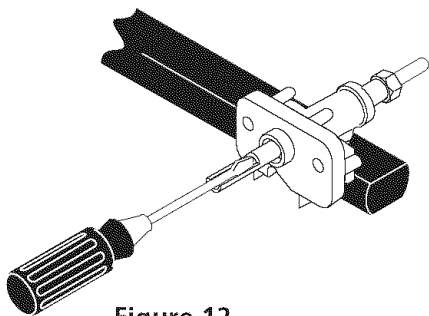

Figure 12
4. Adjust the "LOW" Setting of Regular Surface Burner Valves (Figure 12):